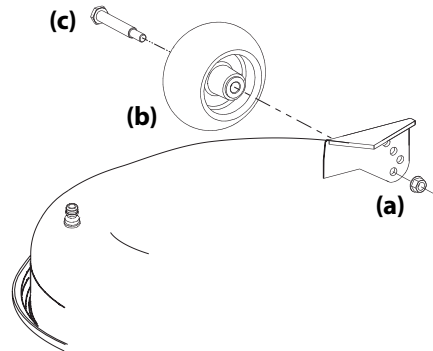

Figure 2-13
- Remove the lock nut securing one of the front gauge wheel shoulder screws to the deck. Remove the gauge wheel and shoulder screw. See Figure 2-13.